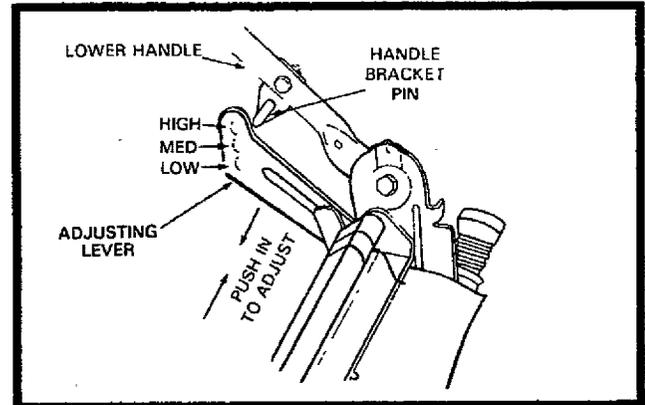

FIG. 13
- The handle on your lawn mower has three (3) heights - adjust to the height that suits you.
- To adjust the handle, push in on the adjusting levers to clear the pins (See Fig. 13).